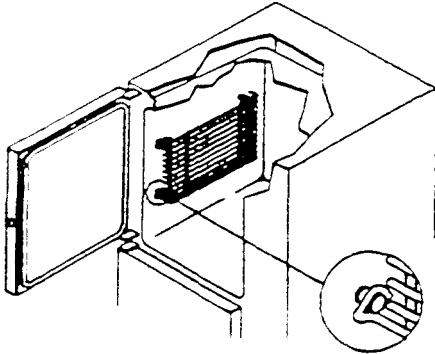

Figure 2-5. Slide Rack Installation
1. Refer to Figure 2-5. There are two slide racks for each cooking compartment. Each rack has four loops: two at the top and two at the bottom. Hold the slide rack so the ends of the hanger loops point down, as shown in the figure.